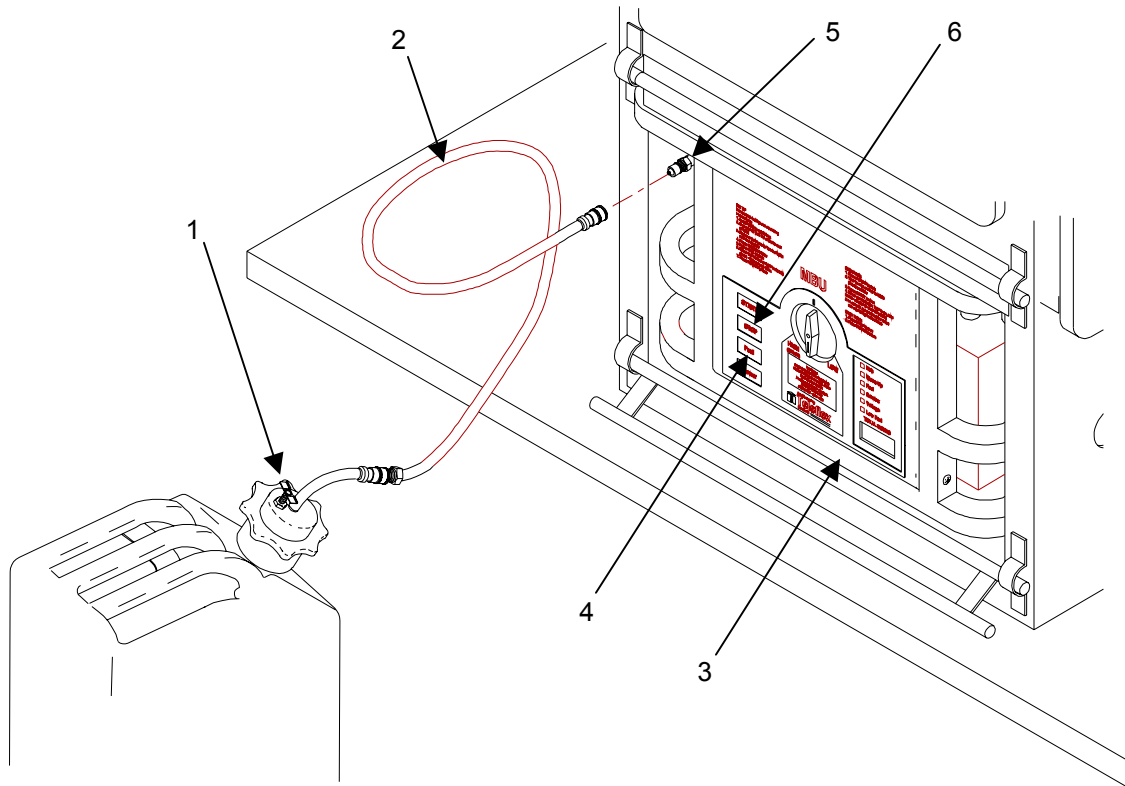

Figure 2. Test the Check Valve
1. Press the STOP button (**figure 2, item 6**) and disconnect power from the MBU.